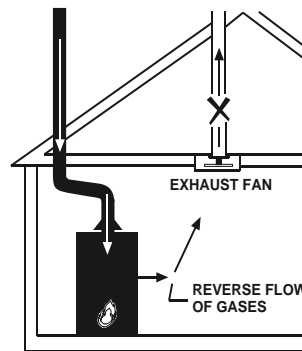

FIGURE 1B.
- Do not locate the water heater near an air-moving device. The operation of air-moving devices such as exhaust fans, ventilation systems, clothes dryers, fireplaces, etc., can affect the proper operation of the water heater. Special attention must be given to conditions these devices may create. Flow reversal of flue gases may cause an increase of carbon monoxide inside of the dwelling (Figure 1B).